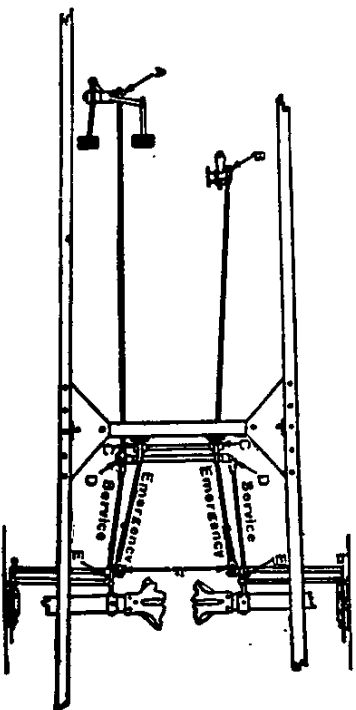

FIG. 43—Brake Adjustment.
rod between the *pedal* and *brake shaft* by raising the *hood* on the left side and turning the *thumb nut* (A), Fig. 43, in the same direction as the hands of a clock, right to left. When the *hand brake lever* is pulled back as far as it will go without stopping the forward movement of the car, shorten the rod between the *hand lever* and the lever on the *brake shaft* by screwing the *thumb nut* B, Fig. 43, to the right.